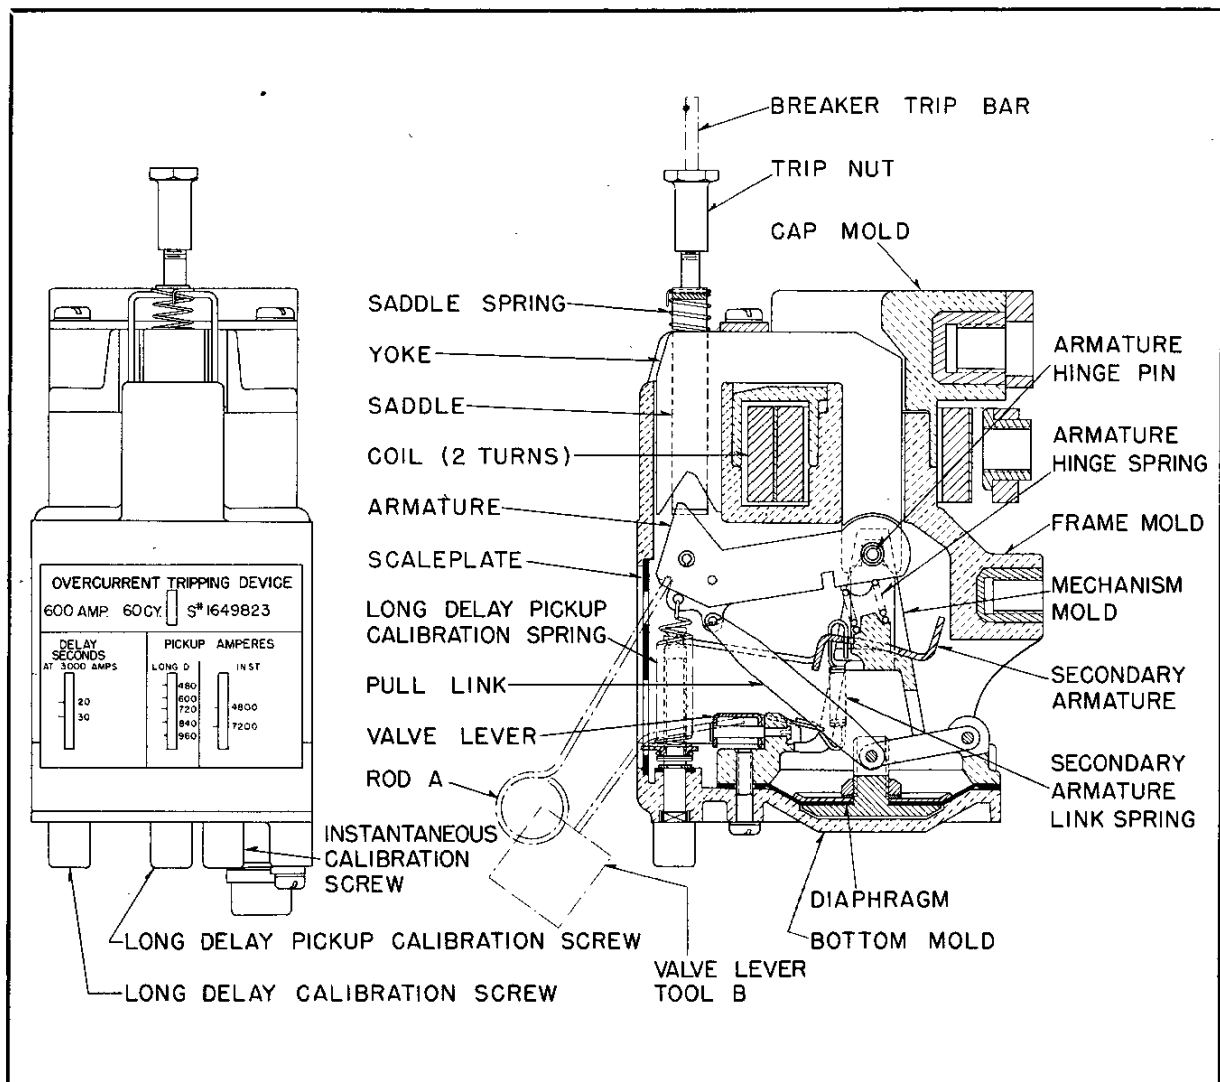

FIG. 6A. Overcurrent Tripping Device—Construction Details
**Construction.** The overcurrent tripping device is of the air delayed type with all elements adjustable. The adjustment knobs or parts likely to be touched while making adjustments of time or pickup current are electrically insulated. Fig. 6A shows a typical overcurrent tripping device ready for mounting on a breaker pole unit.
To adjust the trip nut for proper tripping, first insert valve lever tool "B" or a  $\frac{1}{16}$  diameter rod, in the long delay calibration bracket (left slot) and raise the valve lever to its maximum position. This removes all of the time delay and permits the armature to operate easily. Then insert the push rod "A" Fig. 6A in the top slot of the calibration bracket and push the armature solidly against the yoke; close the breaker and adjust the trip nut to barely trip the breaker. Several trials may be necessary. Next turn the trip nut upwards three quarters turn to provide overtravel. This completes the adjustment as the trip nut is self locking.